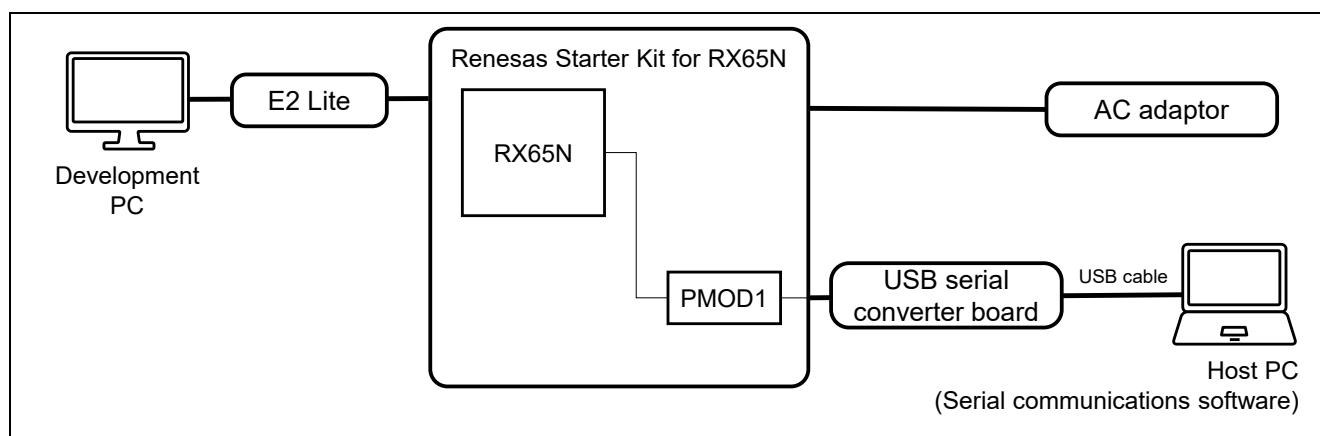

Figure 4.6 RSK RX65N Device Connection Diagram
1. Connect the USB port of the PC to the USB serial converter board and the USB serial converter board to the PMOD1 connector of the RSK board as shown in Figure 4.6, RSK RX65N Device Connection Diagram.